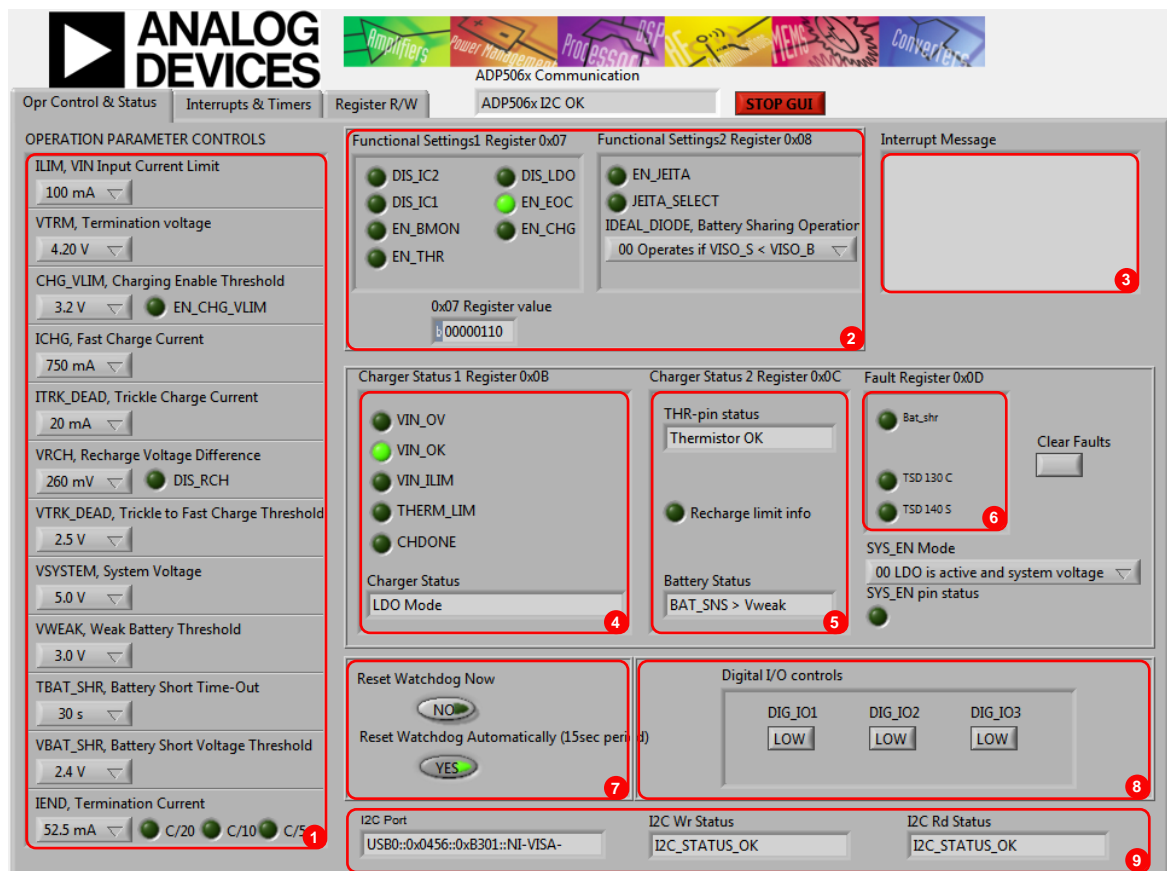
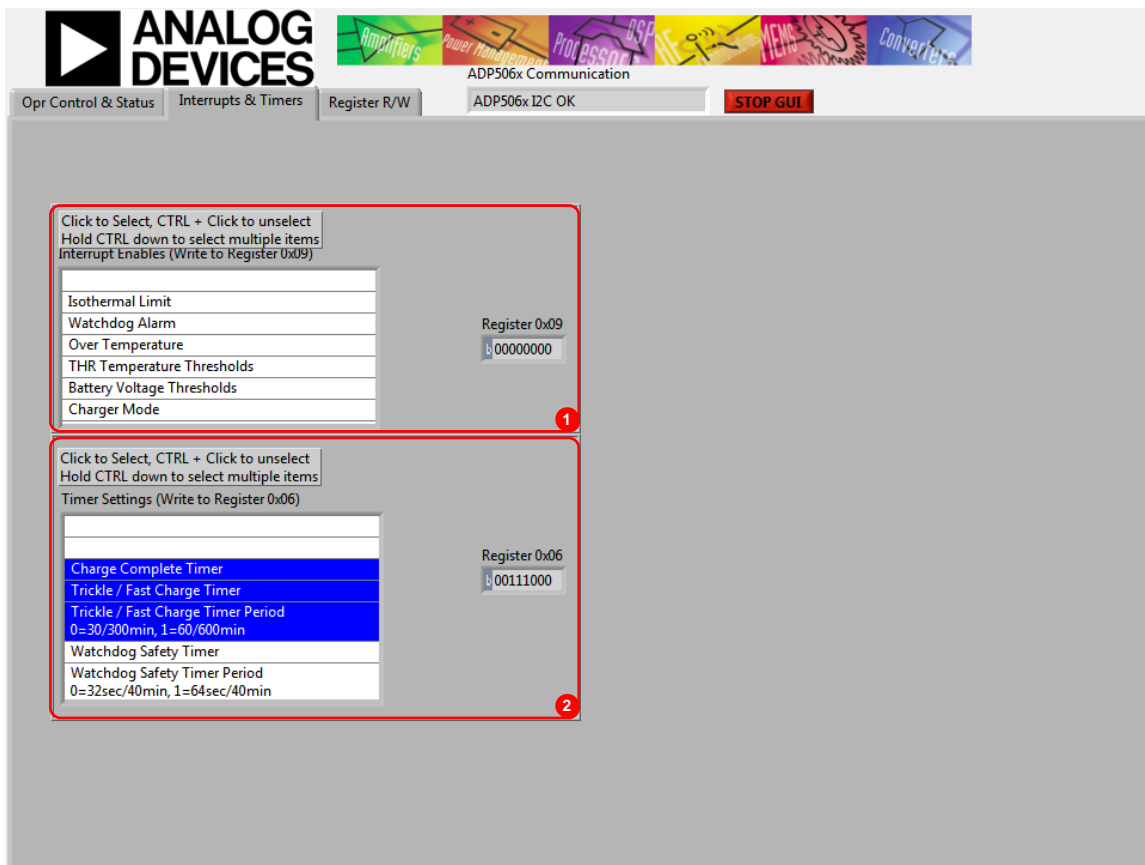

Figure 2. ADP5062 GUI Operation Control and Status Tab
Figure 3. **ADP5062** Evaluation Software GUI, **Interrupts & Timers** Tab
The following are the GUI operation controls and status tools (see Figure 2):
VIN must be above 2.5 V in order for the I²C communication of the ADP5062 to start working. The VIN voltage level is monitored, and the indicators are shown in the charger status indicators (see Number 4 in Figure 2). The GUI automatically reads the content of the registers after every 0.3 seconds from the last action and updates the status of the registers on screen.
If there is a problem in the I²C communication, the status indicators show an error message (see Number 9 in Figure 2). When I²C communication is operational, status indicators show **I2C_STATUS_OK** (see Figure 2).
The **Interrupts & Timers** tab (see Figure 3) in the GUI controls the register settings. Register 0x0A is automatically read after every 0.3 second timeout from the last user action involving the GUI. When a certain interrupt is enabled, and there is a status change in the corresponding function during charging, an interrupt message is shown in the **Opr Control & Status** tab (see Number 3 in Figure 2).
The default settings of the timers are shown in Figure 3. Changing the timer settings can be done by clicking items in the **Timer Settings (Write to Register 0x06)** box.
- The **Battery Status** indicator on the GUI must show **BAT_SNS > Vweak** (see Figure 2).
4. Disable charge complete timer register, Register 0x06, using the GUI (see Figure 3).